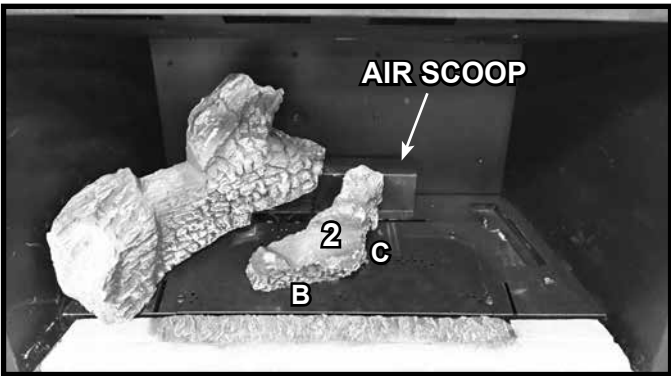

Figure 4. Log #2 Installed
**LOG #2:** With the bark end of Log #2 towards the back of the firebox, set the log onto the burner behind log pins B and C as shown in Figure 4. Rotate the log counter clockwise so that it contacts the air scoop, along with pins B and C.